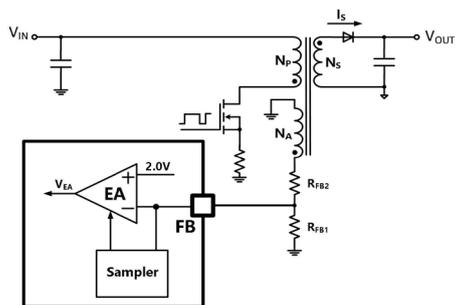
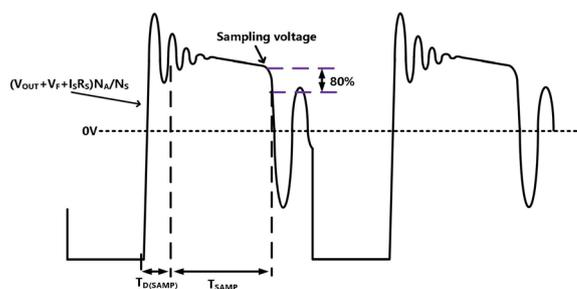

Fig. 16
Fig. 17
RVPW016 senses the output voltage of the switching power supply via the auxiliary winding of the transformer. A resistor divider connected from the auxiliary winding to the FB pin enables voltage sampling during the transformer’s demagnetization stage. During this phase, the sampled voltage is applied to the inverting input of the internal error amplifier (EA), while a fixed reference voltage, V_{REF(REG)}=2V, is applied to the non-inverting input. The EA amplifies the difference between these two voltages to produce a modulation voltage, V_{EA}, which determines the duty cycle of the converter. As illustrated in Figure 16, this V_{EA} output modulates the switching behavior of the power supply. The auxiliary winding voltage waveform referenced in the operation is shown in Figure 17. Once the feedback loop stabilizes, the sampled voltage at the FB pin equals the internal reference voltage of 2V, enabling accurate output regulation. Based on this relationship, the following output voltage formula can be derived:
Therefore, for designs requiring high output voltage accuracy, DCM operation is recommended. In contrast, in Continuous Conduction Mode (CCM), the output voltage decreases as load increases due to the influence of I_SR_S. Regardless of conduction mode, RVPW016 detects the end of the transformer demagnetization stage based on a 20% sudden drop in FB voltage. When this drop occurs, the internal sampler latches the output of the differential amplifier (EA). Because EA has an intentional delay in its response, the latched voltage effectively reflects the FB voltage just prior to the drop, ensuring sampling accuracy. During the early stage of demagnetization-after the power transistor turns off-the FB voltage may oscillate significantly due to resonance between the transformer’s leakage inductance and parasitic capacitance. To avoid false sampling, a sampling delay T_{D(SAMP)} is implemented during which the sampler is inactive. Accurate sampling occurs only after this delay. During the active sampling period, the peak-to-peak amplitude of the FB resonance should be limited to within 20% (approximately 400 mV) of the FB platform voltage. Note that the voltage reflected to the auxiliary winding must be adjusted according to the resistor divider ratio. The sampling delay T_{D(SAMP)} is related to the oscillator frequency set by the external R_T resistor. For example, when R_T=22kΩ, T_{D(SAMP)}≈252ns, as shown in Figure 16. To ensure accurate output voltage sensing, filter capacitors should not be placed in parallel with the FB pin to GND, as this may distort the FB waveform, especially in high-frequency PSR (Primary-Side Regulation) applications operating in the hundreds of kHz. Additionally, the parasitic capacitance of the oscilloscope probe can interfere with FB waveform integrity under light-load conditions due to shortened demagnetization time, potentially causing output voltage deviations. For optimal waveform fidelity and acceptable power consumption in the voltage divider network, R_{FB1} is recommended to be in the range of 2.5kΩ to 6kΩ, with a typical value of 4kΩ.